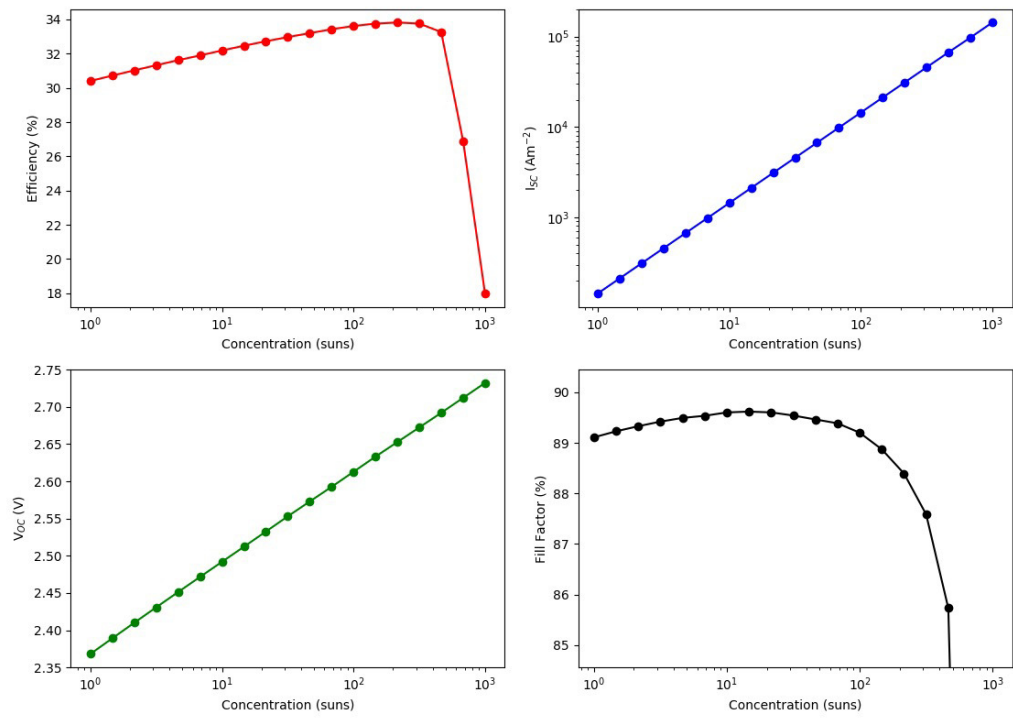

Figure 3: Summary of the efficiency, I_{sc} , V_{oc} and fill factor versus concentration.
Figure 3 shows the summary of the efficiency, I_{SC} , V_{OC} and fill factor (FF) versus concentration. The efficiency of the cell is just above 30% at 1 sun, and increases with concentration, peaking at around 200-300 suns. Further increasing the concentration rapidly decreases the efficiency. Both, I_{SC} and V_{OC} follow the expected linear trend in log-log and semilog plots, respectively, while the fill factor increases for low concentrations and then continuously drops from 20 suns and, specially, from 200 suns. The initial smooth drop of the fill factor can be related with a limited carrier transport across the QW region, that under concentration, suffers from charge accumulation and damping of the electric field. However, the abrupt drop at higher concentrations is related to the failure of the tunnel junction which, by design, had a low peak current.